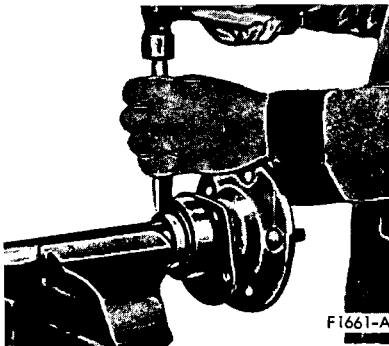

FIG. 2 Removing Rear Wheel Bearing Retainer Ring
1. On all models except Ford, Mercury or Meteor, if the rear wheel bearing is to be replaced, loosen the inner retainer ring by nicking it deeply with a cold chisel in several places (Fig. 2). It will then slide off easily.